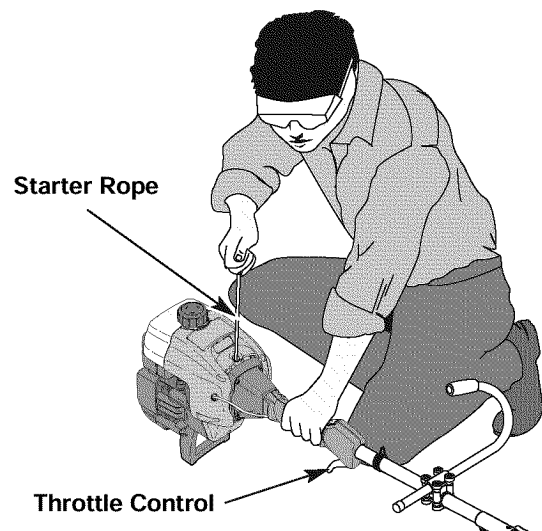

Fig. 9
WARNING: Avoid accidental starting. Make sure you are in the starting position when pulling the starter rope (Fig. 9). To avoid serious injury, the operator and unit must be in a stable position while starting. To avoid serious personal injury, ensure any Add-On being used is installed correctly and secure before starting unit.
5. With the unit in the starting position (Fig. 9), squeeze the throttle control to the wide open (full throttle) position. Pull the starter rope briskly 5 times while still in the **FULL** choke (**A** |←|) position. If the engine attempts to run before the fifth pull, proceed to step 6.
7. Pull starter rope briskly 1 to 3 times to start the engine (Fig. 9).
1. Release your hand from the throttle control (Fig. 9). Allow the engine to cool down by idling.